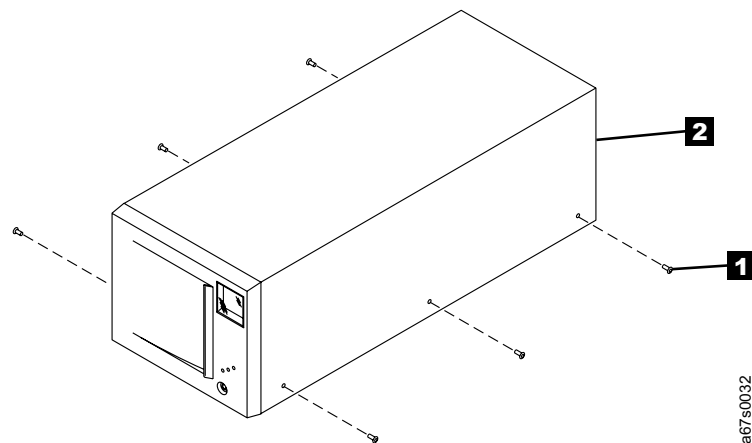

Figure 41. Removing the covers of the 3581 Tape Autoloaders
4. Use a T-10 Torx driver to remove the six Torx screws (see **1** in Figure 41 that secure the left autoloader’s cover **2**).